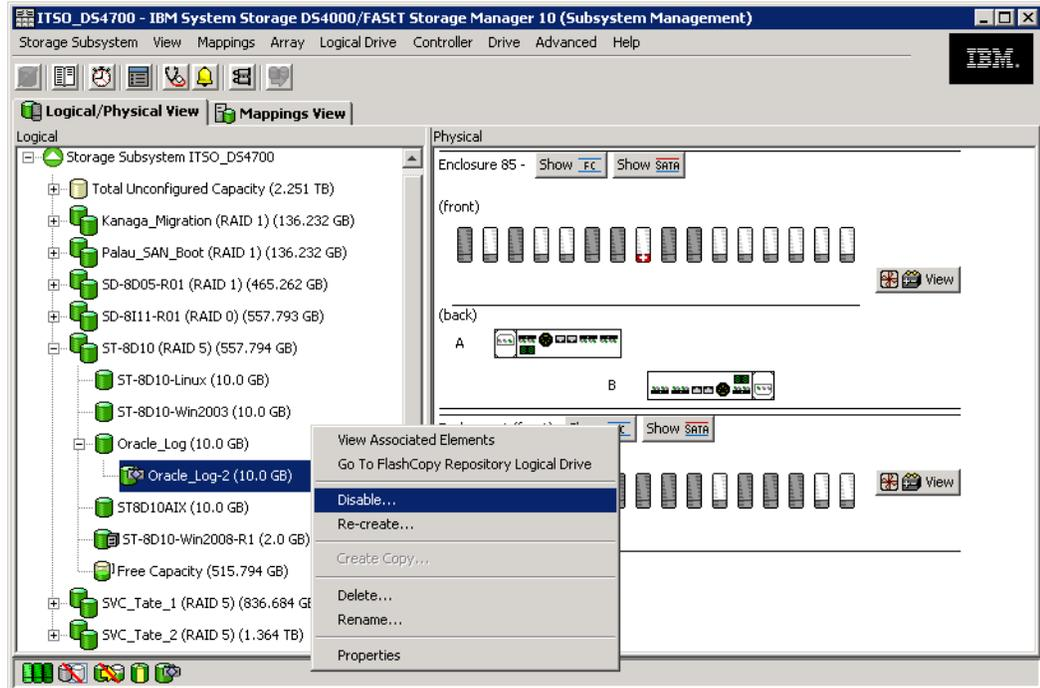

Figure 7-28 FlashCopy logical drive: Disable
4. Click the **Capacity** tab (Figure 7-28 on page 425) to view or set the following FlashCopy repository logical drive capacity properties:
1. Select the FlashCopy logical drive. Right-click and select **Disable**, as shown in Figure 7-28.